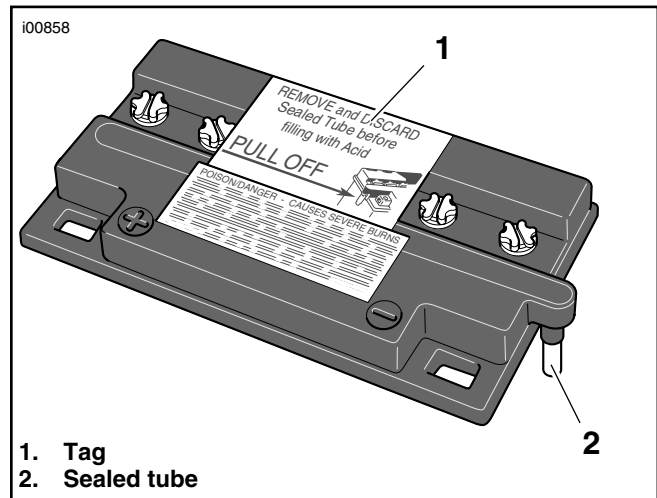

Figure 1. Reminder Tag/Sealed Shipping Tube
2. See Figure 1. Remove reminder tag and short sealed tube from battery vent elbow.